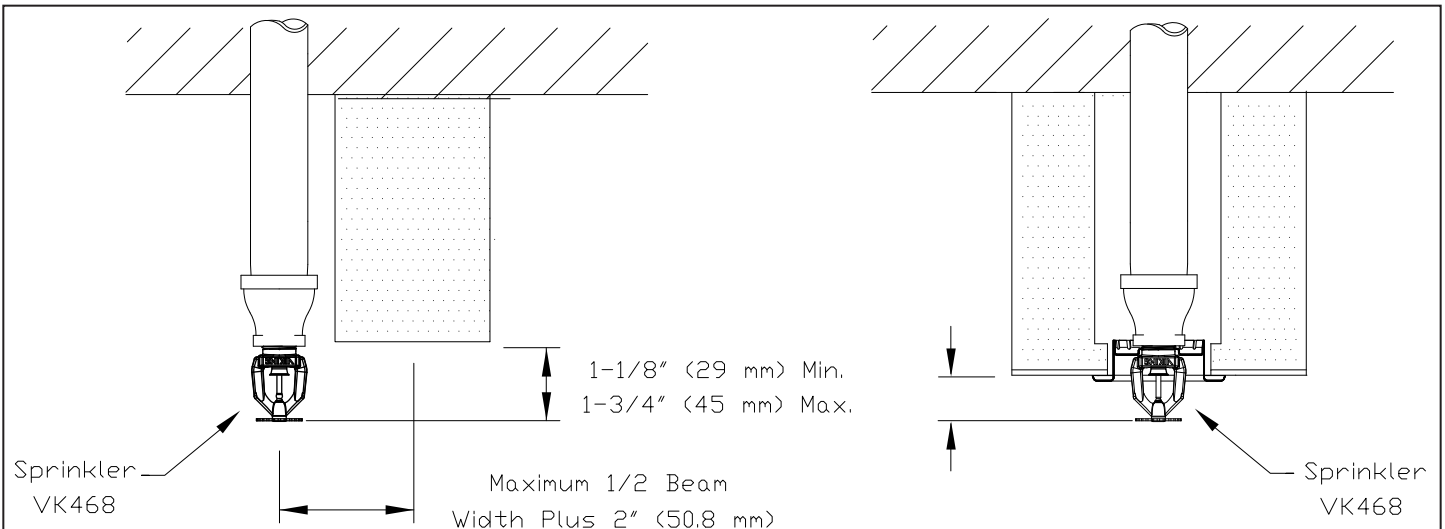

Figure 6: Sprinkler Positioning Under Primary Beams
- ⁹ Listings are for residential occupancies with smooth, flat, horizontal ceilings or horizontal ceilings with beams. Includes ceilings with slopes up to and including a 2/12 (9.5°) pitch. (For beam ceiling design criteria, refer to Beam Ceiling Guidelines and Figures 6 through 7D on pages 149s-t).
Sprinkler Location: Locate sprinklers on the underside of the beams (not in the bays or pockets formed by the beams). Refer to Figure 6. The vertical distance from the sprinkler deflector to the bottom of the primary beam must be between 1-1/8 and 1-3/4" (29 to 45 mm). The horizontal distance from the centerline of the sprinkler to the primary beam cannot be more than 2" (51 mm) (Figure 6).